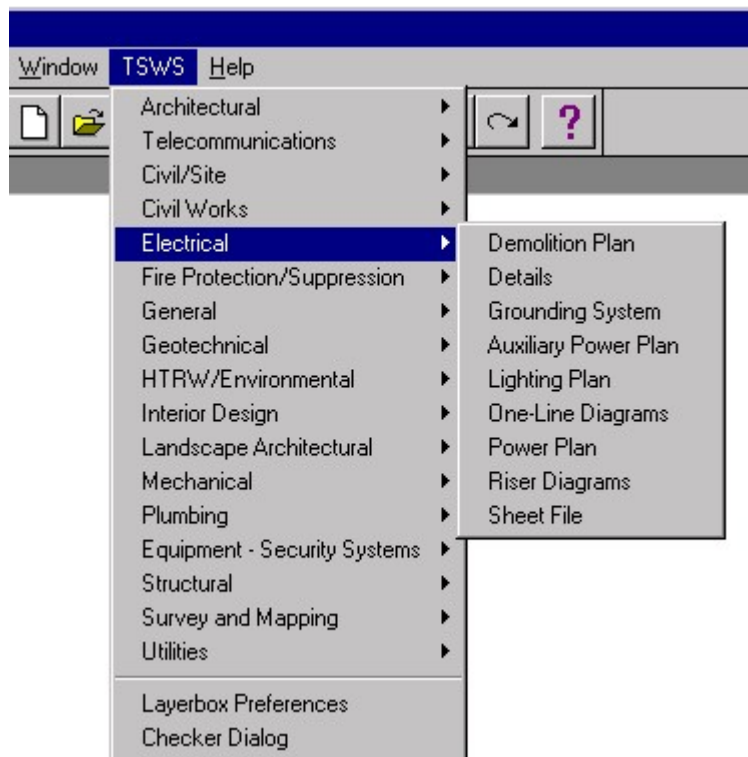

Figure 1 – Example Discipline with Drawing types
The Tri-Services Workspace is broken down into 17 different disciplines, each containing two (2) to 11 drawing types (Figure 1). The different drawing types contain menu selections for all element types. Each element type has a special set of attributes that are automatically set for the user. This will ensure that new elements placed into a drawing will comply with the Tri-Services A/E/C CADD Standards.